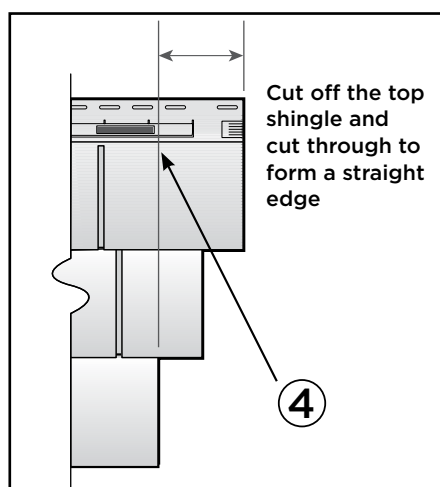

Figure 1
1. Create a straight edge on the right side of the panel by cutting the top two shingles so they are flush with the bottom shingle, as shown in figure 1. Cut 4" off the top course of the panel at the 4 mark on the tape measure located on the hanger, below the nail slots.